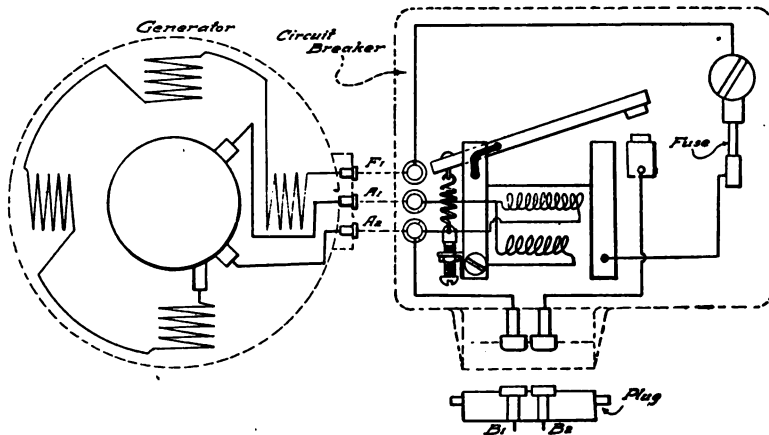

Fig. 297. Wiring Diagram of Generator and Circuit-Breaker Circuits for Leece-Neville System
allowing the main brush directly above the third brush to stick in its holder; a loose connection at the point  $A_2$ , Fig. 297; improper insulation between the wires  $B_1$  and  $B_2$  in the connector plug, Fig. 297. By an open circuit is meant an actual break at a connector or a terminal, or in the wiring itself, while a loose connection signifies an insecurely fastened terminal or wire, at a junction box, or at any other part of the system. If there is a short-circuit in the field winding of the generator, this also will cause the fuse to blow out.
*Testing the Field Winding.* While a short-circuit in the field winding of any generator is a rare fault, there are times when the trouble cannot be traced to any other part of the system. To test the Leece-Neville generator for this, connect the negative terminal of the portable testing ammeter to  $F_1$ , Fig. 297, while the positive terminal of the motor must be connected to the positive terminal of a 6-volt storage battery; the negative terminal of the battery is to be connected to the third brush when drawn from its holder. If the indication of the ammeter is above 4 amperes, there is a short-circuit in the field windings. In such a case, the generator should be returned to the manufacturers for repairs.